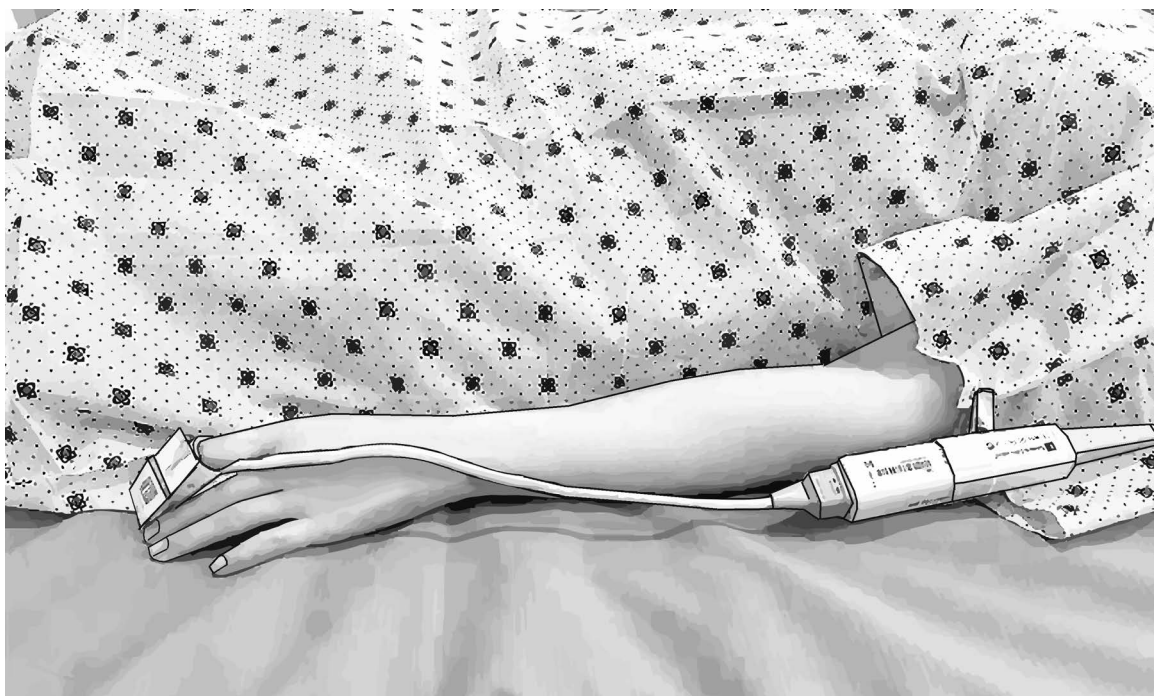

Figure 10-4 Smart pressure controller clip(s)
- 2 Use the Smart pressure controller cable clip(s) to place the Smart pressure controller near the patient's forearm. See figure 10-4 (preferred location)